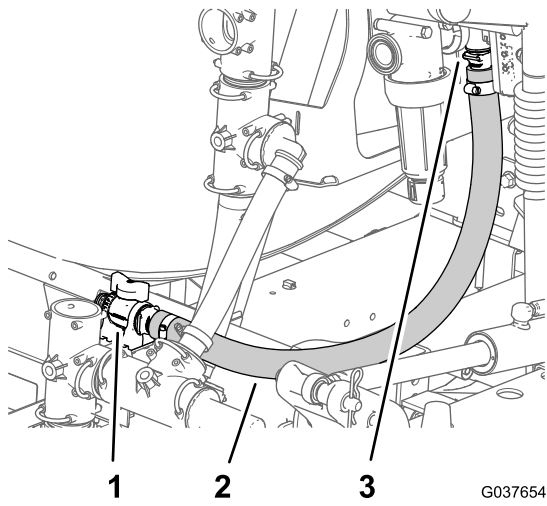

**Figure 54**
1. Assemble the straight barbed fitting of the agitation supply hose (1 x 33-1/2 inches) onto the quick coupling of the agitation throttle valve with the retainer that is supplied with the hose (Figure 54).
3. Assemble the straight barbed fitting of the agitation supply hose onto the quick coupling of the agitation throttle valve with the retainer that is supplied with the hose (Figure 54).